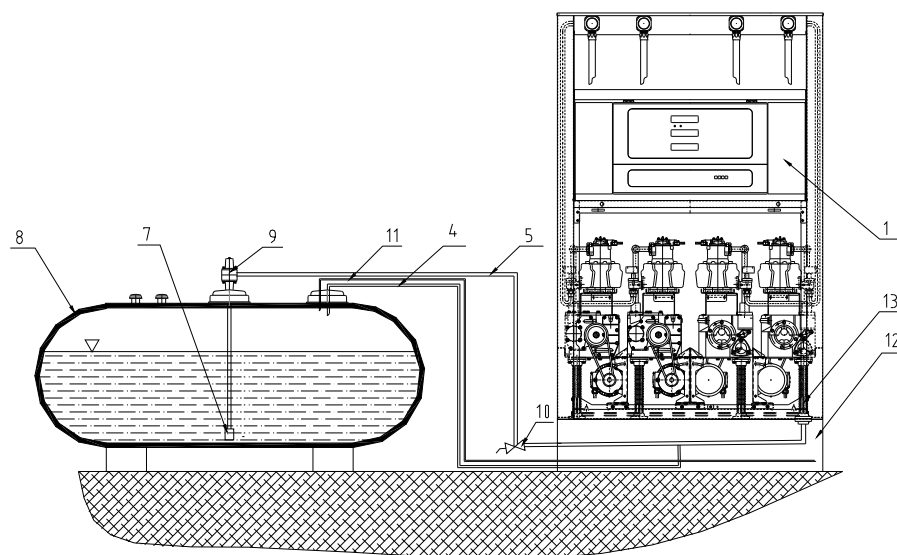

Figure 11 – Example of connection between the dispenser and the surface tank
**check valve**, to ensure that the pump of the dispenser generates an under-pressure ca – 0.03 MPa. We recommend a valve **V316.XX**. The producer of these valves is ZPA Slavičín. At the lowest point of the piping there should be installed a **stop and bleed valve**, which can be closed by the operator, whenever the dispenser is out of operation. If there aren't such valves, any leakage in the fuel system may cause **uncontrolled fuel leakage** (see Figure 11).